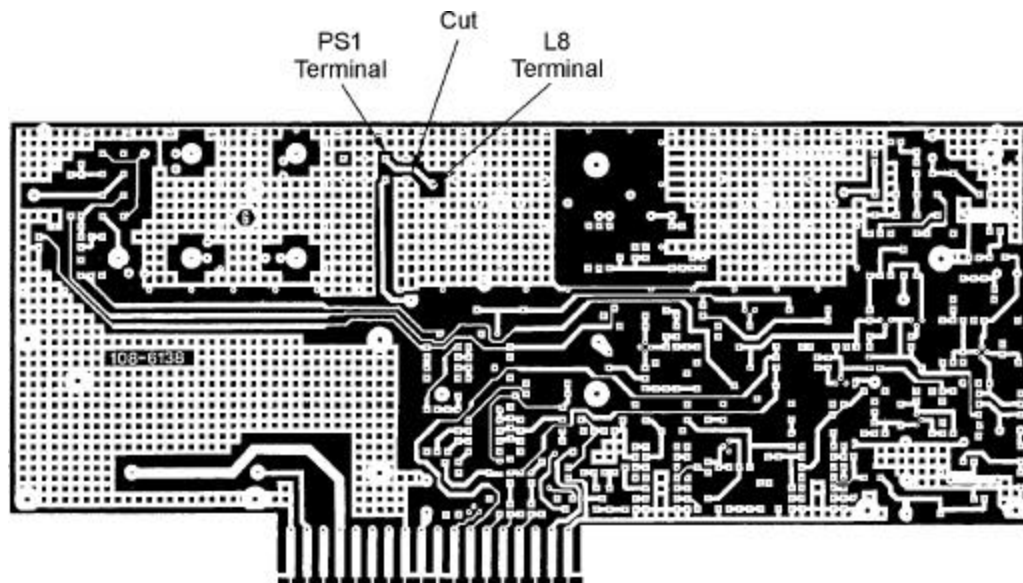

Figure 2. R/T PC Board - Solder Side
3. Cut the trace located on the solder side of the board between RF Power Splitter PS1 and Air Coil L8 (refer to Figure 2).